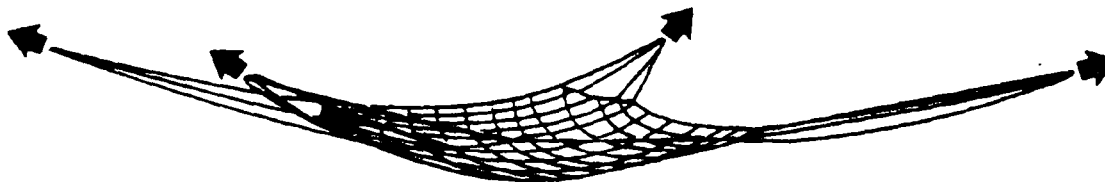

Figure 1-7. Fully Extended Net
Step 1 - Spread the net out on the ground. Have four persons pull evenly on each of the four lifting legs to open the net to its fullest extension over the spot where the net is to be loaded (Figure 1-7). This will prevent overlap of the net under the pallets or load.